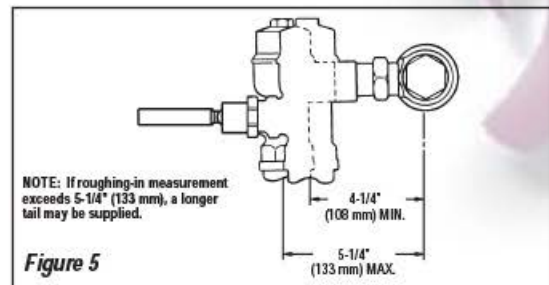

Figure 5
Step 3 - Install Flushometer SLOAN ADJUSTABLE TAILPIECE (Figure 5)